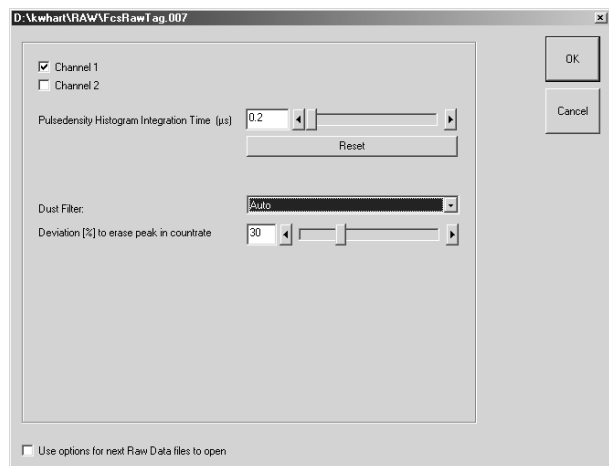

Fig. 3-98 The Options menu for loading raw data files with dust filter set to automatic
- Selection of **Auto** (see Fig. 3-98) will allow you to set a threshold intensity in the **Dust Filter Threshold Intensity** display box by typing in a value or selecting a specific value with the slider. The value (0 ... 100) will define the threshold in percentage. If now the integrated count rate over a certain count interval will exceed the average count rate by that threshold, this special interval is discarded for correlation analysis. For example, if the system detects a count rate in a certain time interval that exceeds the average count rate by over 30 % and the threshold was set at 30, this interval is discarded for correlation analysis. The time intervals before and after the discarded region are separately correlated and the results averaged. These holds also true, if more than one region is discarded.